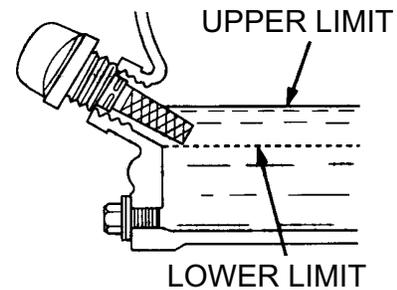

Figure 7. Engine Oil DipStick (Oil Level)
4. If the oil level is low (See Figure 7), fill to the edge of the oil filler hole with the recommended oil type (Table 7). Maximum oil capacity is 1.16 quarts (1.1 liters).